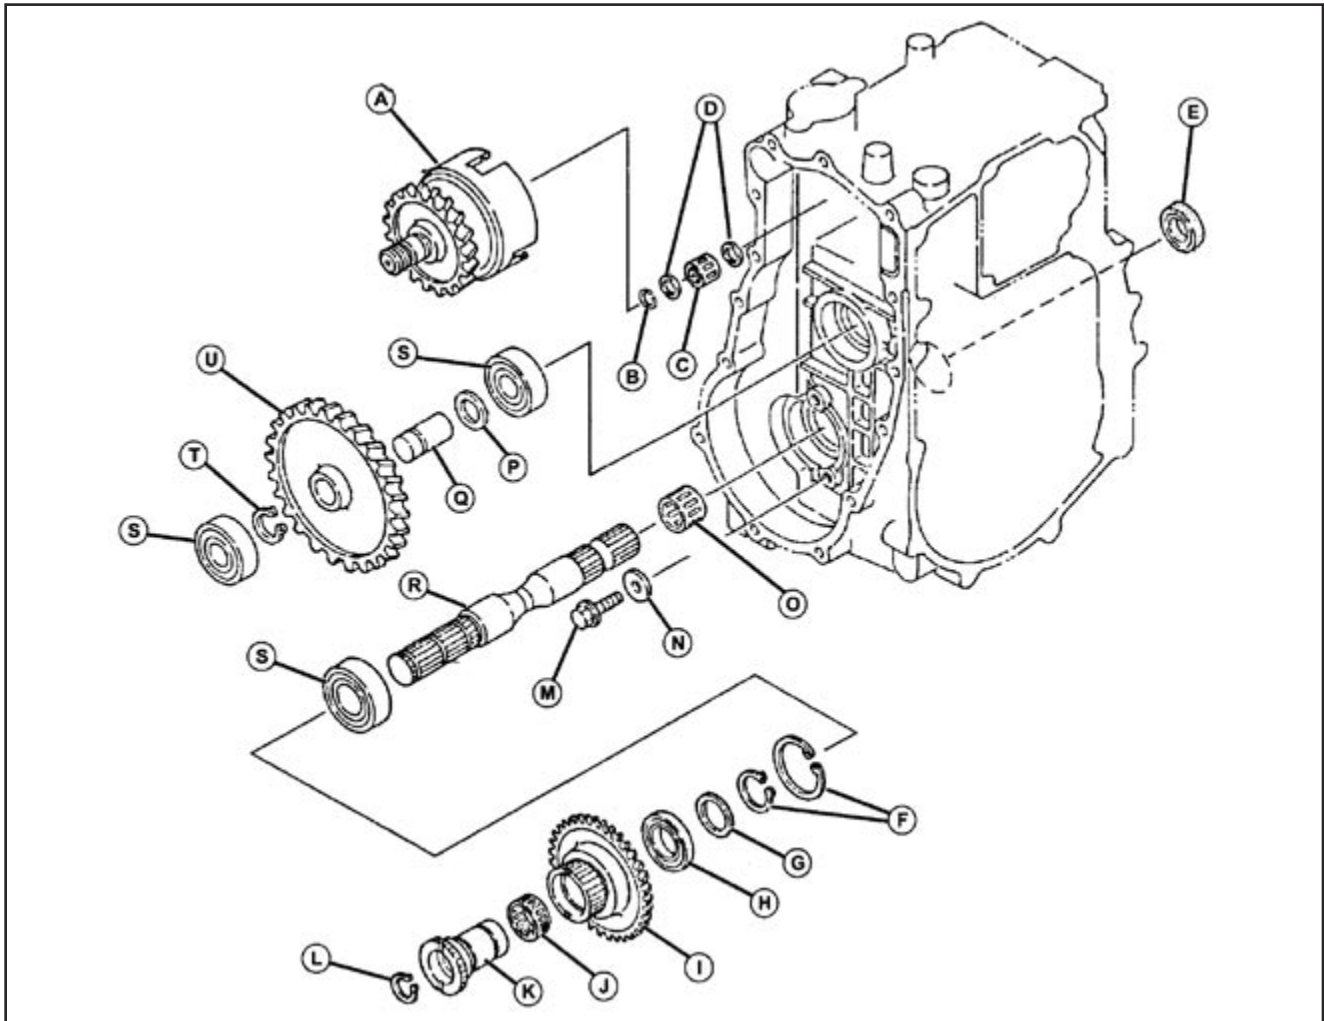

Fig. 22, PTO Drive Train (Mid and Rear PTO) Disassembly
4. Remove PTO clutch assembly (A). (Fig. 22)
5. Remove PTO idler gear assembly (U). (Fig. 22)
6. Remove snap ring (L), spline collar (K), and remove mid-mount and rear-mount PTO gear assembly (I). (Fig. 22)
2. Apply petroleum jelly to seal on shaft of PTO clutch assembly (E). (Fig. 22)